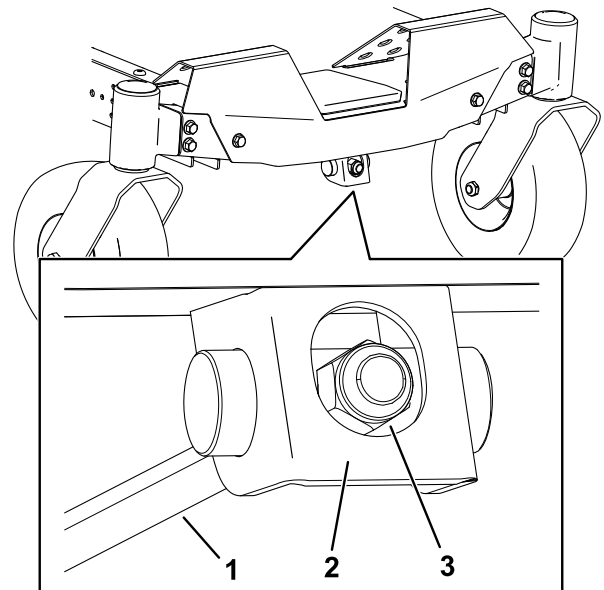

Figure 67
1. Rotate the adjustment nut in the front of the mower (Figure 67).